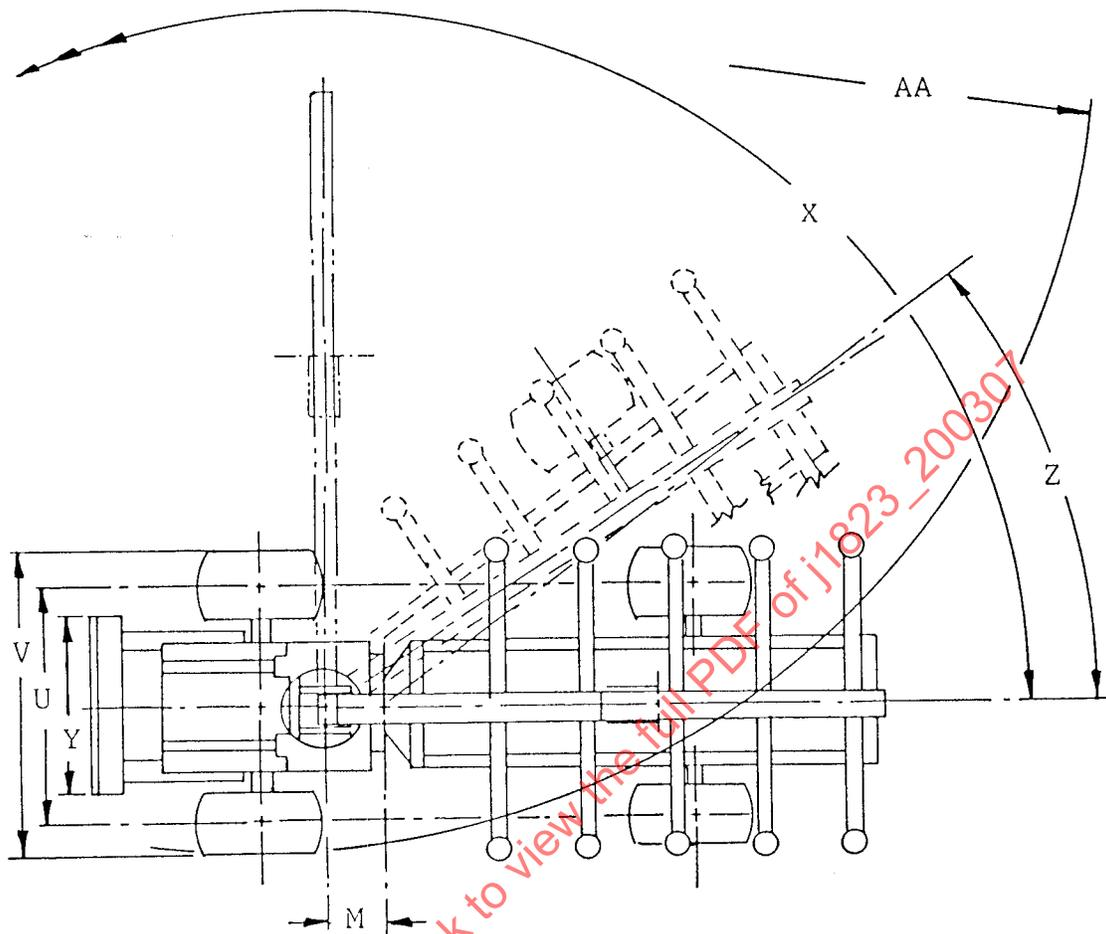

FIGURE 3—STEERING AND LOADER ROTATION ARTICULATED RUBBER-TIRED FORWARDER
- 4.13 **Centerline of Hinge to the Centerline of Loader Base (M)**—The horizontal distance from the centerline of the hinge to the centerline of the loader base on the longitudinal axis. (Figures 3 and 7)
- 4.27 Loader Rotation (X)**—The maximum loader rotation in degrees from the centerline of forwarder. (Specify if continuous rotation.) (Figure 3) (Quantify right and left if unequal.)
- 4.28 Blade Width (Y)**—The horizontal distance between the outer edges of the blade. (Figure 3)
**4.29 Angle of Articulation (Z)**—The maximum angle of frame steering movement from the straight ahead position measured in degrees between longitudinal centerlines of the machine frames. (Figure 3) (Quantify right and left if unequal.)
**4.30 Clearance Circle (AA)**—The smallest diameter that the outermost point on the machine will describe when turning under the following conditions: (Figure 3)